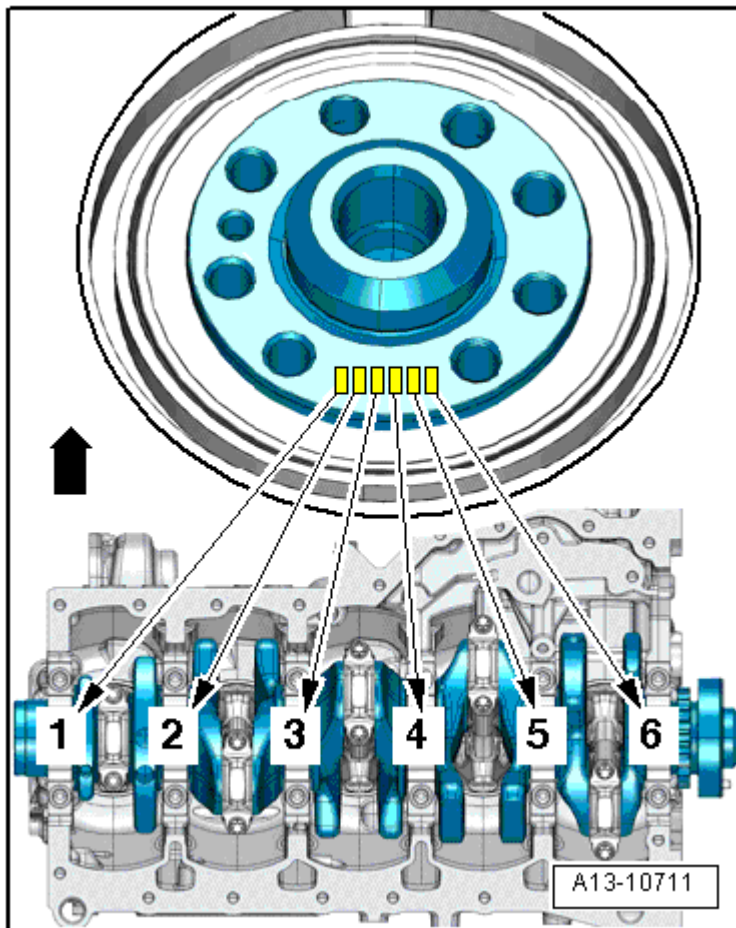

Fig. 14: Allocation, Lower Bearing Shells (Bearing Cap)
- Crankshaft bearing shell, allocating. Refer to **Fig. 14**.